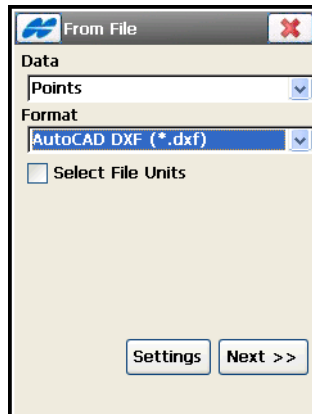

Figure 5-14. From AutoCAD DXF
1. If the *AutoCAD DXF* or *AutoCAD 2000 Drawing* format is selected, select the Point Type on the **From File** screen (Figure 5-14).